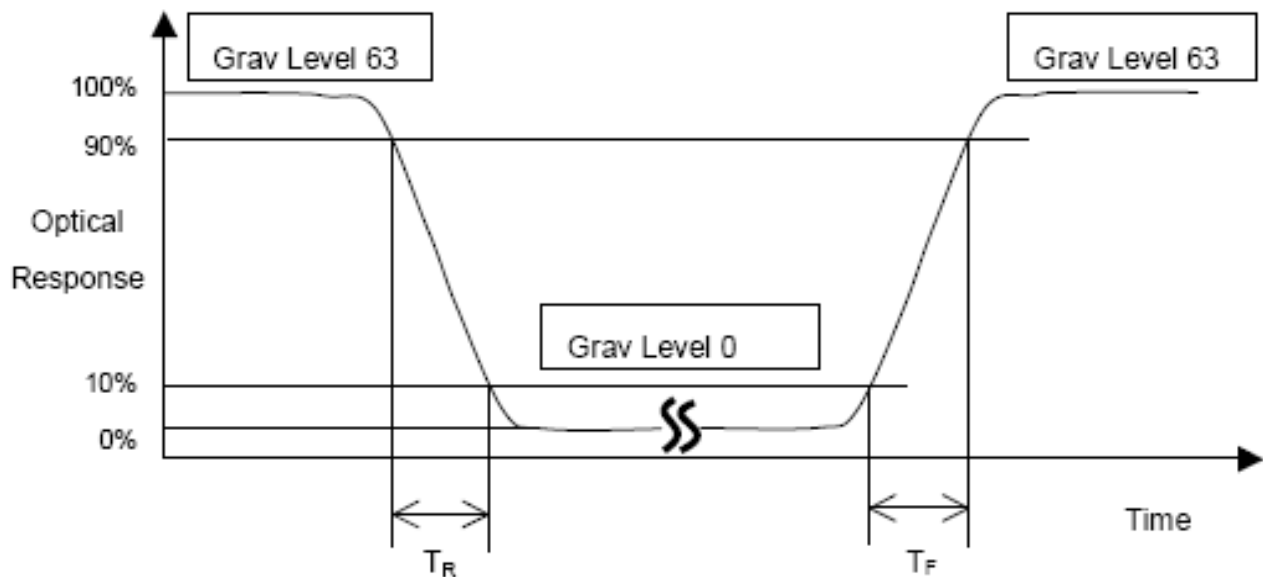

FIG. 3 The definition of Viewing Angle
4. Viewing angle is the angle at which the contrast ratio is greater than 10. The angles are determined for the horizontal or x axis and the vertical or y axis with respect to the z axis which is normal to the LCD surface. For more information see FIG 3.